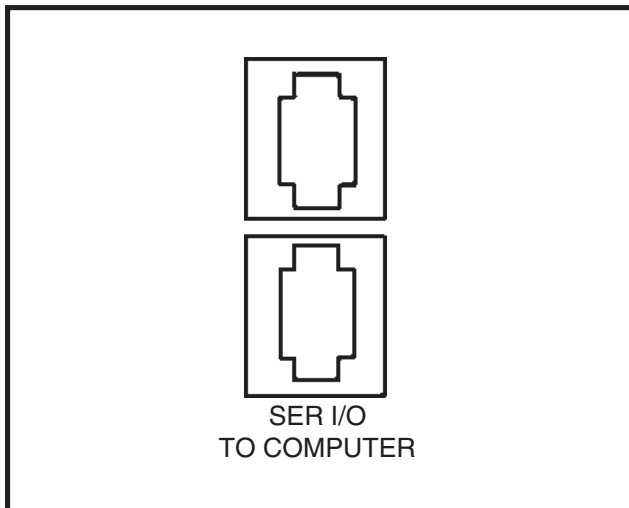

Figure 15
2.5.5 SER I/O (Serial Port Input/Output) (See Figure 15)
2.5.6 SER I/O TO COMPUTER (See Figure 15)